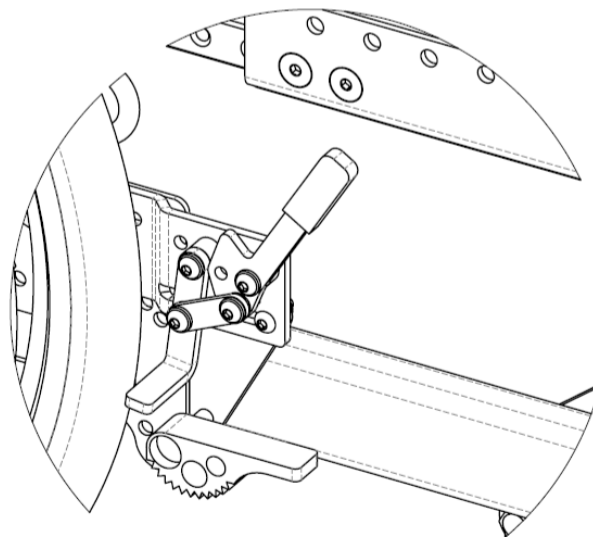

Figure 16.40: Wheel Locks with Anti-Rollback Device
6. To engage the anti-rollback device (Figure 16.40), push the anti-rollback cam into the down position.